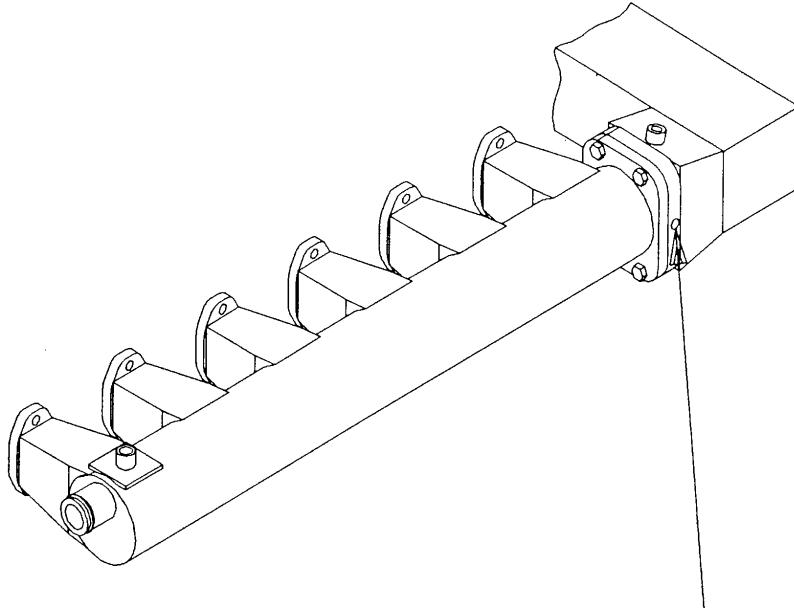

Figure 15. Location of Exhaust System Back Pressure Test Port
27. () Connect a manometer or magnehelic to the test port in the exhaust manifold Flange shown in Figure 15. Run the engine at full throttle no load, with exhaust conditioner filled to normal operating water Level. The exhaust back pressure does not exceed 40 inches of water.